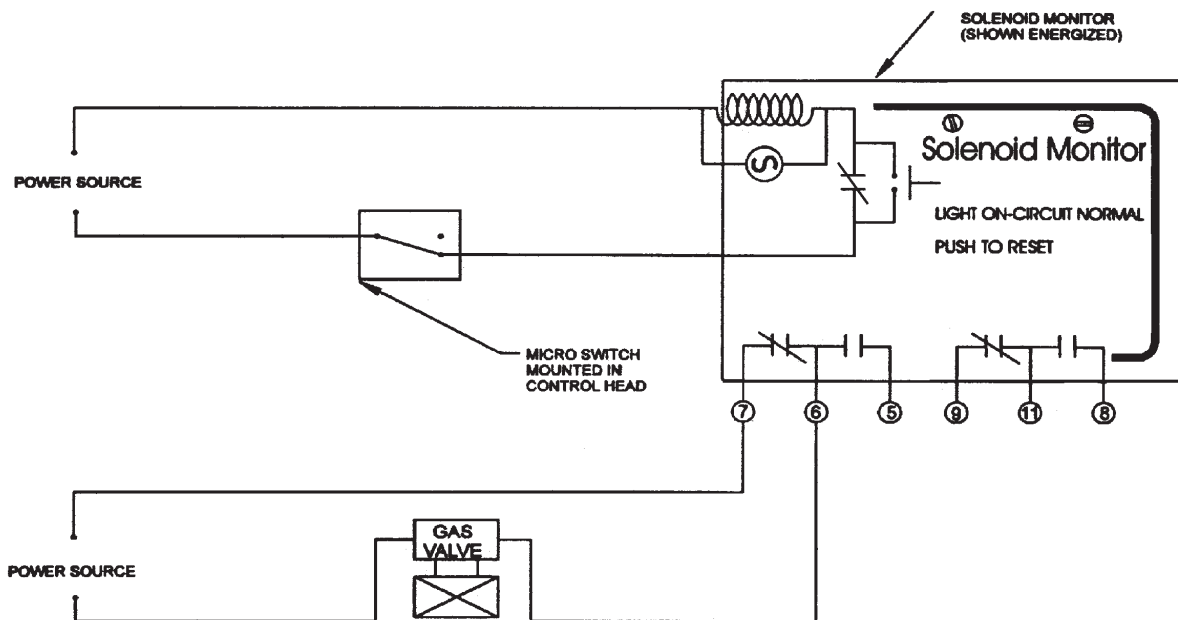

Figure 4-15. Solenoid Monitor Wiring With Electrical Gas Shut-off Valve.
- ▶ The Model SM-120 can be used as a reset relay when required. A reset relay is required whenever an electrical gas shut-off valve is used in conjunction with the PYRO-CHEM KITCHEN KNIGHT II Restaurant Fire Suppression System. For typical wiring connections, see **Figure 4-15**.
The Model MCH3/ECH3/NMCH3 Control Head is used to operate the electrical gas shut-off valve. This valve is located in the fuel gas supply line to the cooking appliance(s). The valve body has an arrow which indicates direction of gas flow through the valve. A reset relay (Solenoid Monitor, Model SM-120) must always be used with an electrical gas shut-off valve. For proper wiring of the electrical gas shut-off valve, see Figure 4-15.